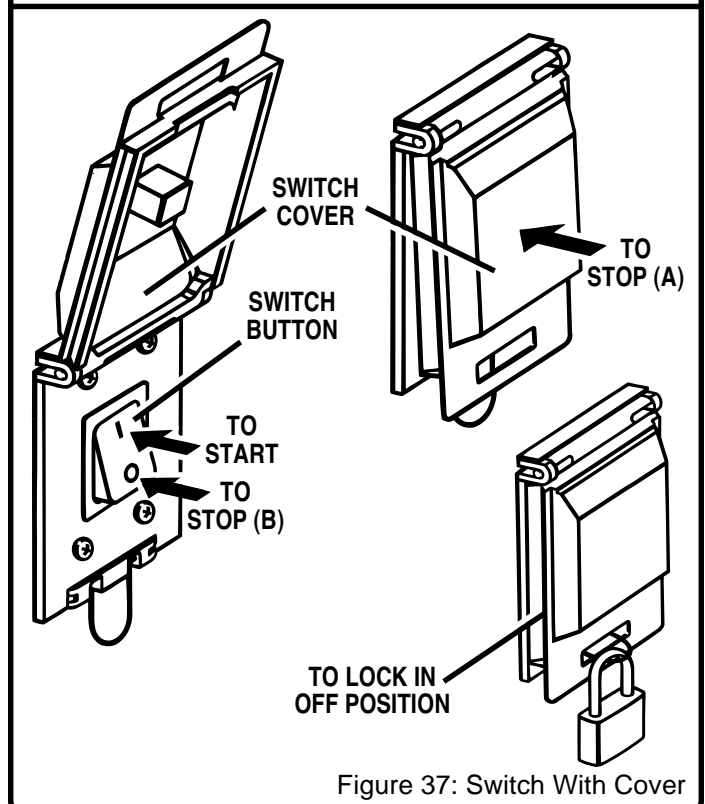

Figure 37: Switch With Cover
8. To turn saw **OFF**, (A) press or push outside of switch cover, or (B) lift switch cover and press switch button. See Figure 37.
NOTE: To prevent unauthorized use, lock your saw in the **OFF** position with a padlock as shown in figure 37.